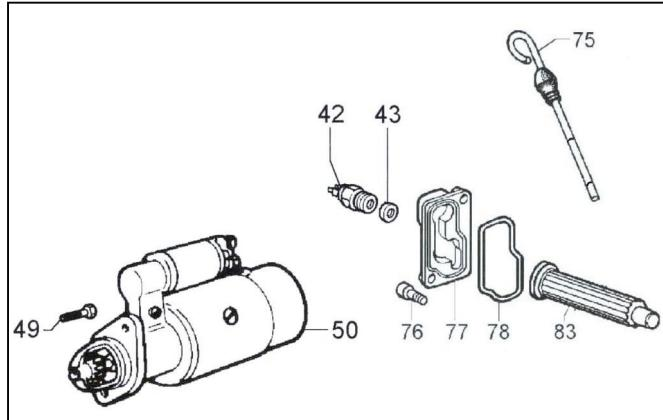

Figure 18
8.5.4 Oil Filter Cartridge (figure 18, #83)
1. Loosen and remove the two cover screws (figure 18, #76) that hold the oil filter cartridge cover (figure 18, #77) to the engine.
2. Remove the cover (figure 18, #77) and gasket (figure 18, #78).
3. Pull the oil filter cartridge (figure 18, #83) out of the engine and clean. **The oil filter can be washed with diesel fuel and reused up to three times before replacement.**